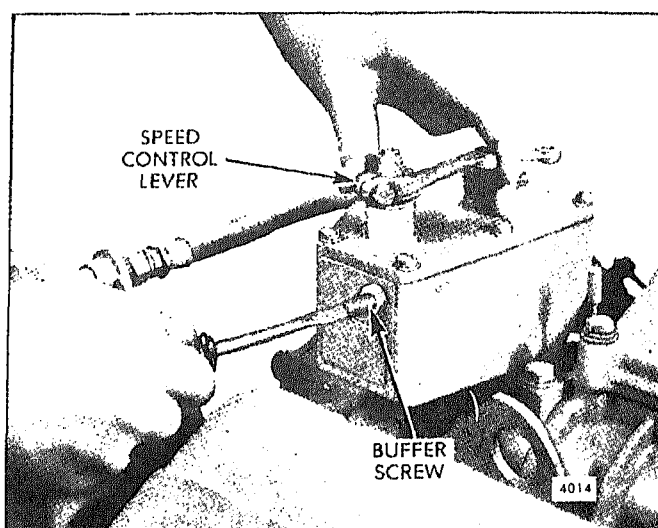

Fig. 9 - Adjusting Buffer Screw
2. Back out the buffer screw (Fig. 9) until it extends approximately 5/8" from the lock nut.
1. With the engine running at normal operating temperature, turn the buffer screw in (Fig. 9) so it contacts the differential lever as lightly as possible and still eliminates engine roll.